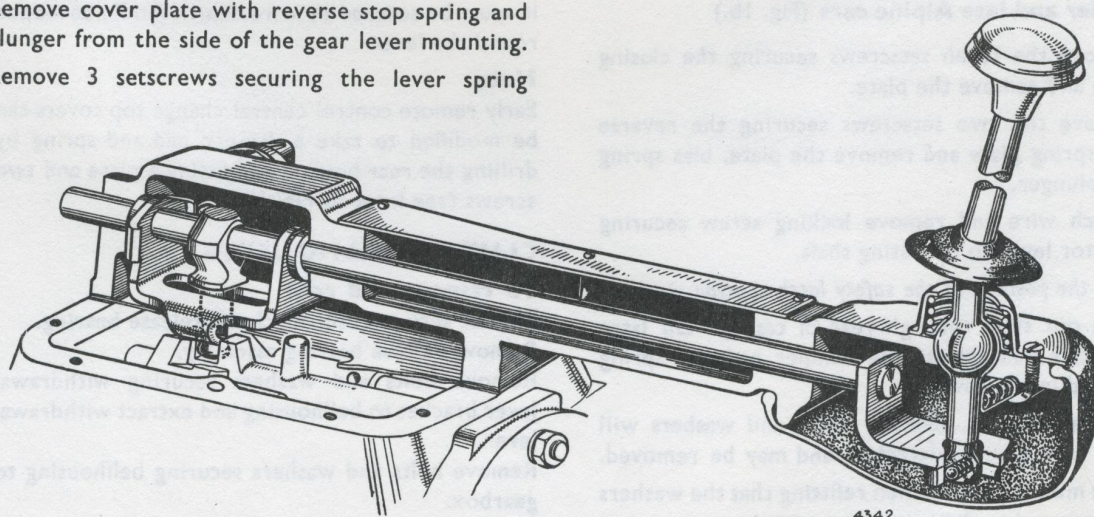

Fig. 1a. Sectional view of top cover assembly, early Alpine cars
**To dismantle and reassemble****Early Alpine (Fig. 1a)**